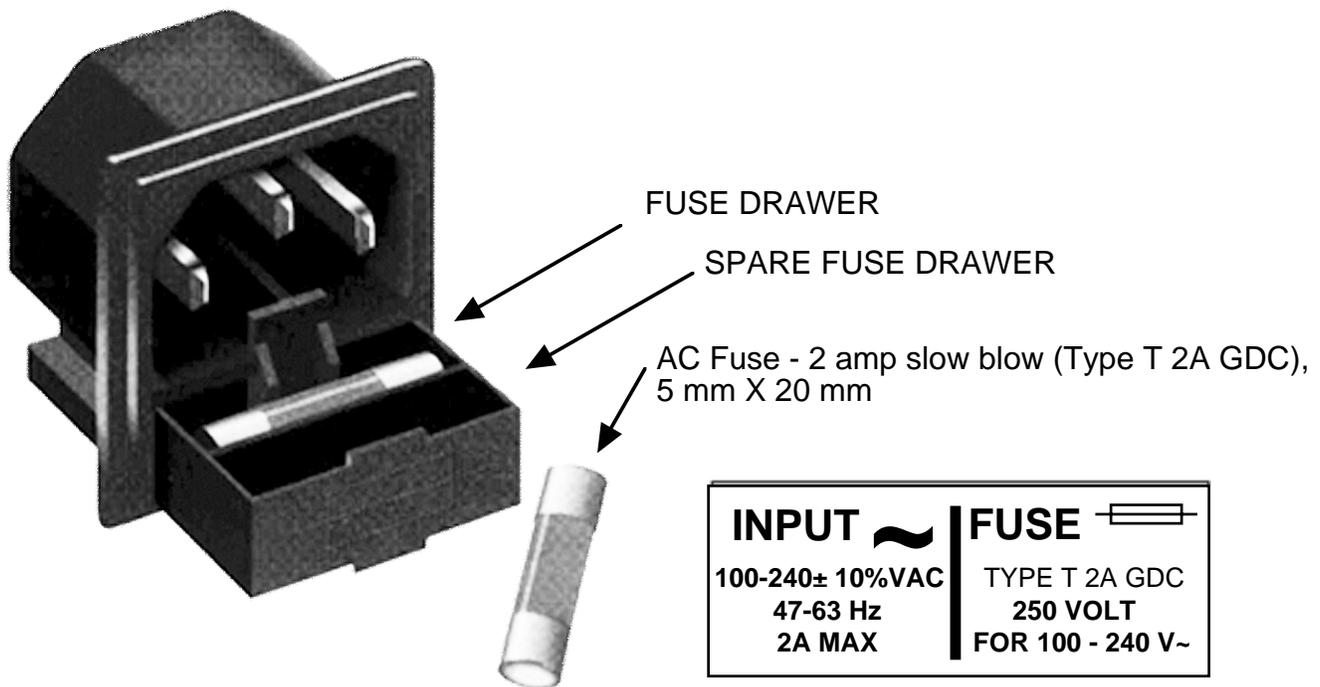

FIGURE 2.4 Fuse Location and Spare Fuse
8. AC FUSE - The fuse is a 5 mm X 20 mm, 2 amp slow blow (Type T) and is inserted in the far slot in the drawer below the AC input as shown in Figure 2.4. There is a spare fuse in the near slot. If a fuse continues to open, the power supply is most likely defective.